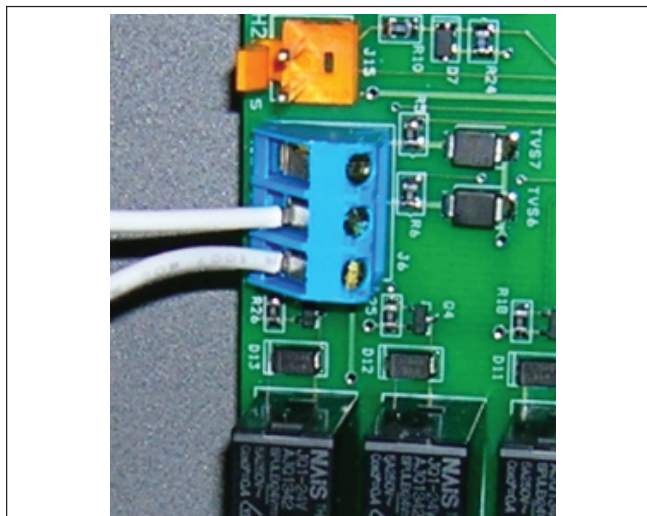

Figure 26. AquaLink® RS or Remote TSTAT Connection (2-Wire Connection)
4. Connect the wiring from the pool/spa control system to the heater remote control terminal. See Figure 26.